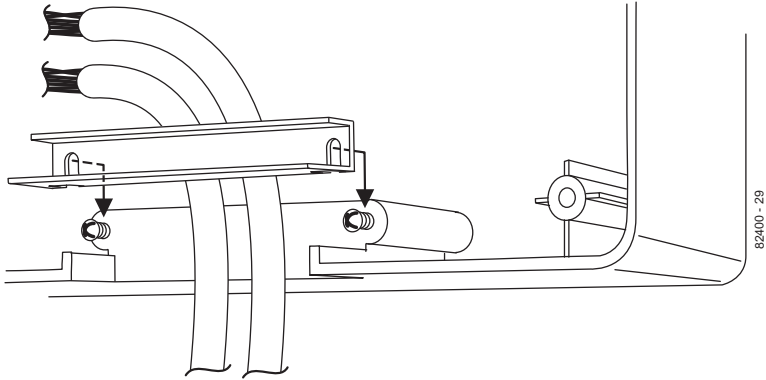

Figure 3-2 SECURING THE CABLES
2. After you have punched down your cables, route them through the bottom of the cabinet and secure them with the strain relief bar (Figure 3-2).